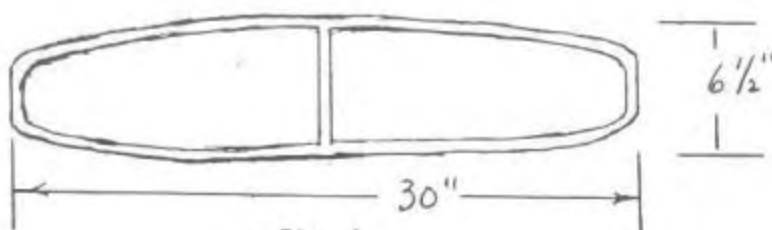

Fig. 1
*Very grainy picture shows 1936 Buick convertible coupe at the '36 Chicago Auto Show, with Cord convertible in foreground and Hudsons in the background. (Figure 1-A)*
(Figure 1-B)
window. (Figure 1-C)
Also with John Steed's article he has a narrow rectangular window shown in figure 1 of his article. This window has nothing to do with 1937 or 1938 Buicks, but rather with the 1940 Super and Roadmaster convertible which introduced the power tops to Buick. These cars also had no rear curtains. It was believed that no one would want the rear curtain out, but would rather power the top down. I have showed photo figure 5 to show two 1938 convertibles with this style window which is incorrect.